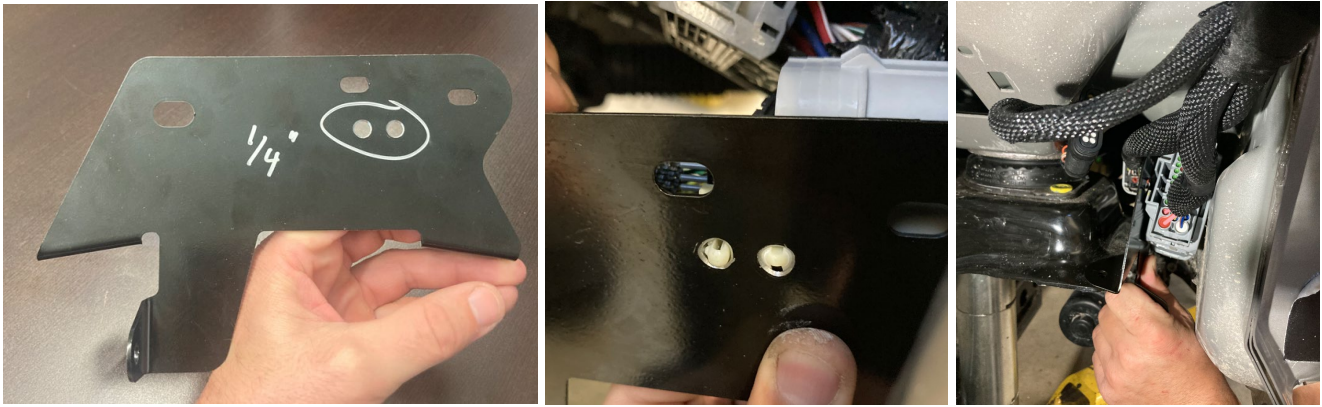

Figure 6.2
- NOTE: MY2025+ trucks need two ¼" holes in LH Side (Drivers) bracket to re-mount wire harness / connector as shown in photo below (fig. 6.2) Template Included at end of I-Sheet